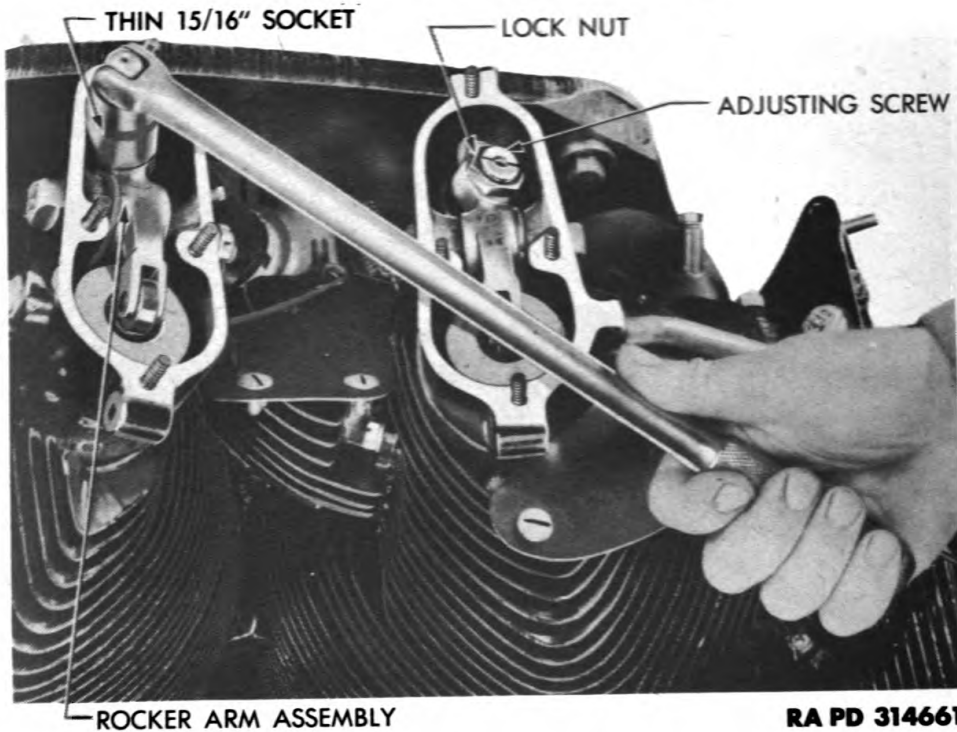

Figure 45 – Loosening Rocker Arm Adjusting Screw Lock Nut
g. Remove Rocker Arm Assemblies. Make sure valve being worked on is in closed position, or rotate crankshaft with timing bar (par. 73 m), until valve is in closed position. Break loose all rocker arm adjusting screw lock nuts (fig. 45). Pull cotter pin from rocker arm hub bolt nut. Holding bolt head (fig. 46), remove nut and washer. Slide bolt and washer from rocker box. Lift out rocker arm assembly. Remove other rocker arm assemblies in same way.